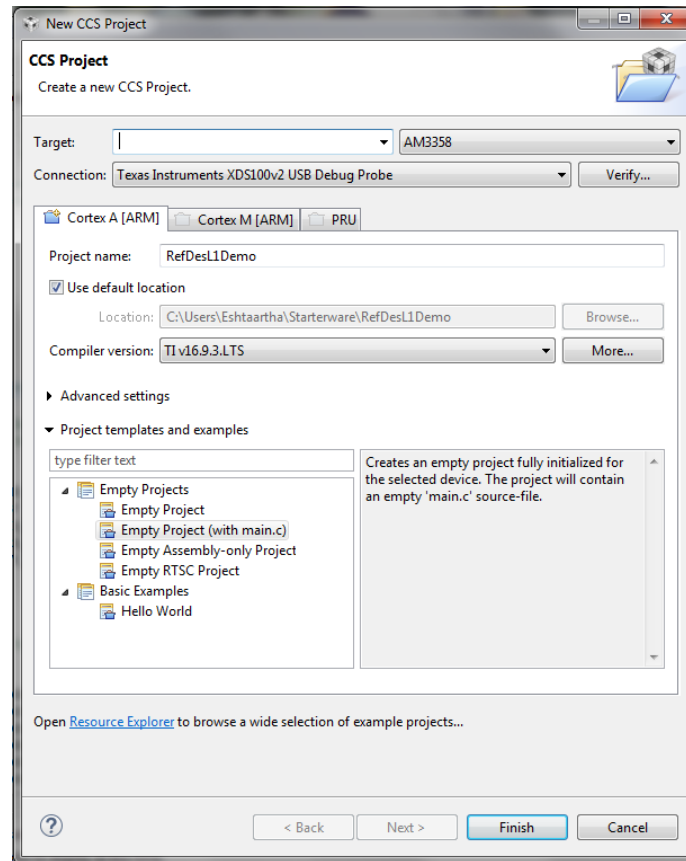

Figure 70 Demo Application 1 project settings
- Name the project as **RefDesL1Demo1**. Configure the project as shown in Figure 70 and hit **Finish**.